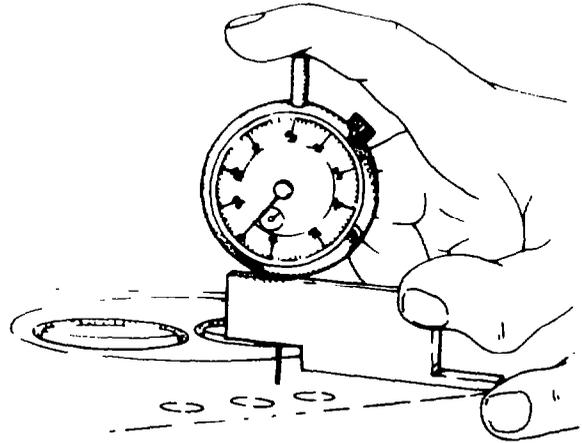

Fig. 39 — Zeroing Depth Gauge
- a. Zero tool J-26948 on cylinder head face next to the valve (see fig. 39).